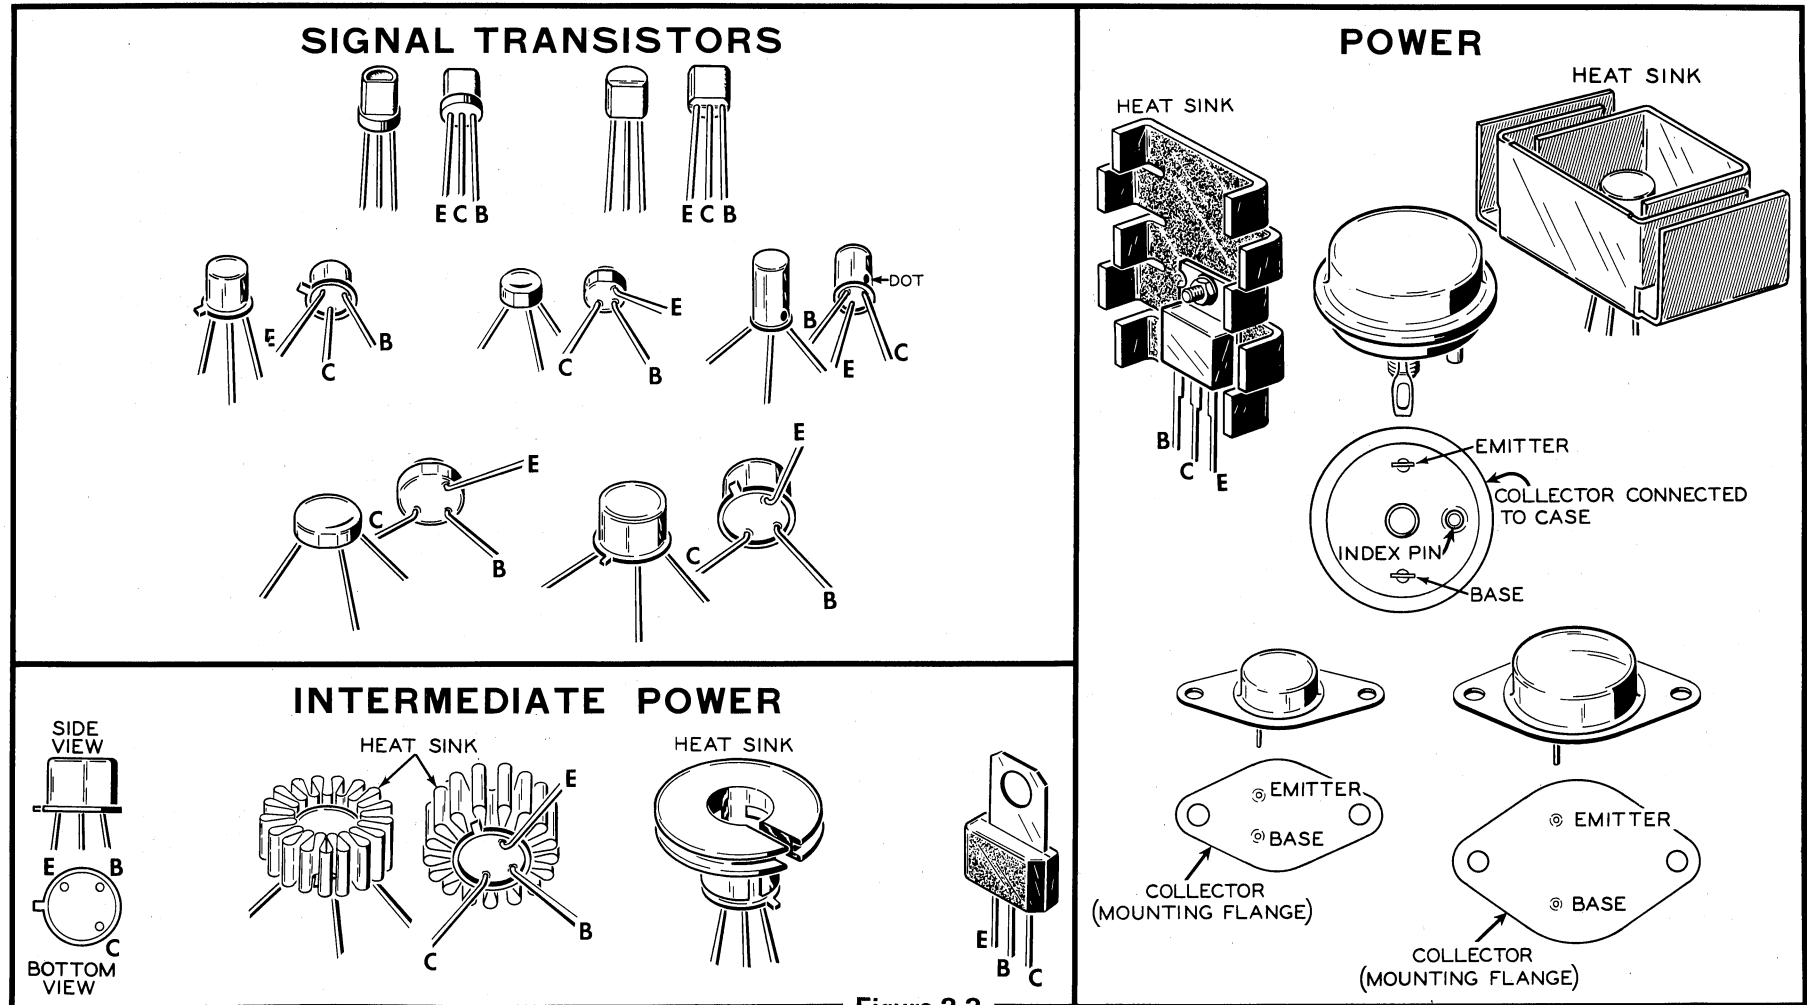

Figure 2-3
1. The basing configuration (E, B, C, or S, G, D). Figure 2-3 shows some of the more common configurations. If the transistor type number is available, the basing configuration can be found in the manufacturer's handbook. Also, a schematic may provide this information.
3. The power class. See Figure 2-3. (Signal, intermediate power, or power.)